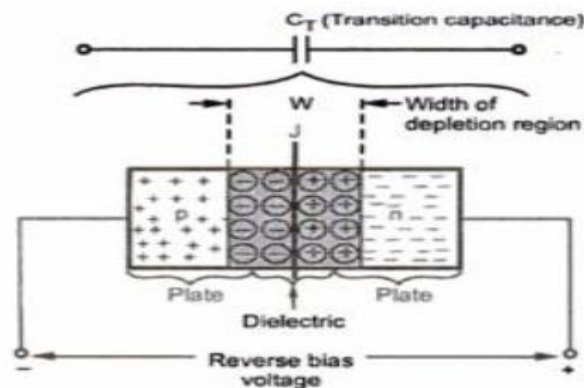

Fig. 1.14 Transition Capacitance
- It is denoted as C_T and is shown in figure 1.14.